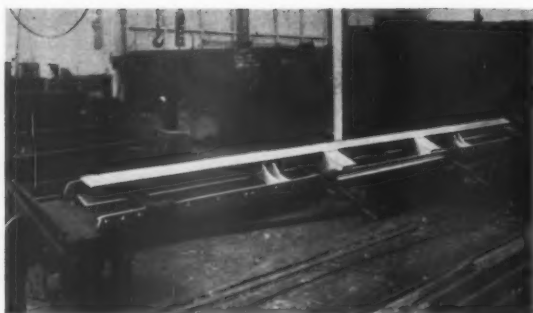

Fig. 15
In Fig. 15 is shown the fixture for assembly (A) made from a length of $10'' \times 3''$ channel, the web being used as a base plate, to which are attached the necessary locating stops. The fixture is capable of rotating on pedestals. To one of the flanges of the channel base two quick acting toggle clamps are fitted for holding the doorway stiffening plate. On the other flange four positioning brackets are bolted.